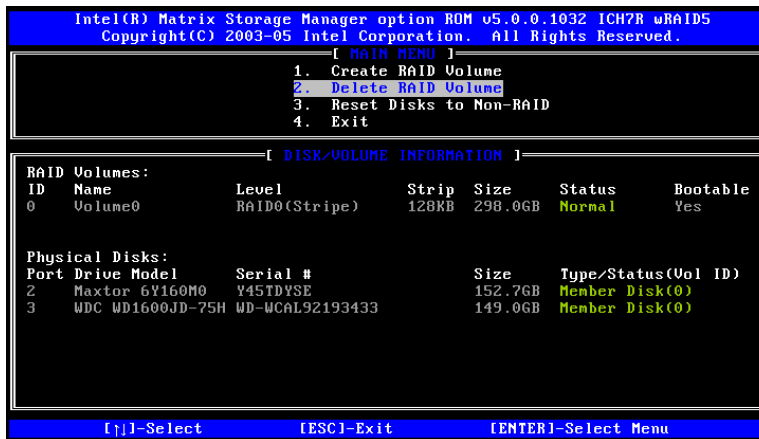

Figure F-8: Delete RAID Volume Menu
- Step 1:** Select “Delete RAID Volume.” Use the arrow keys to highlight Delete RAID Volume and press ENTER. See Figure F-8.